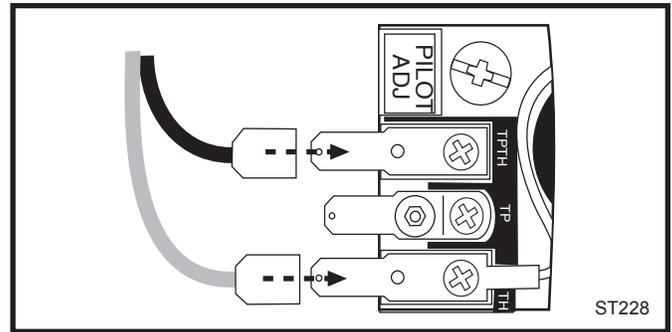

Fig. 18 Attach switch wires to valve.
3. Attach wires to valve terminals. (Fig. 18)
2. Connect the thermostat wires to the valve. (Fig. 18)